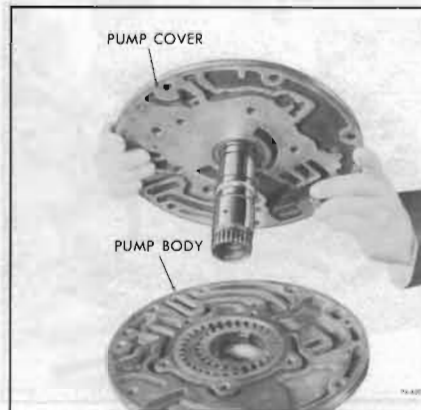

Figure 74-620
8. Remove pump cover from body. See Figure 74-620.